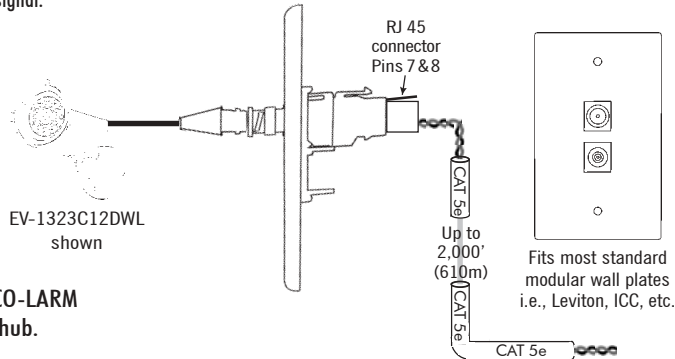

Figure 2:
3. On the CCTV camera side (fig. 2):